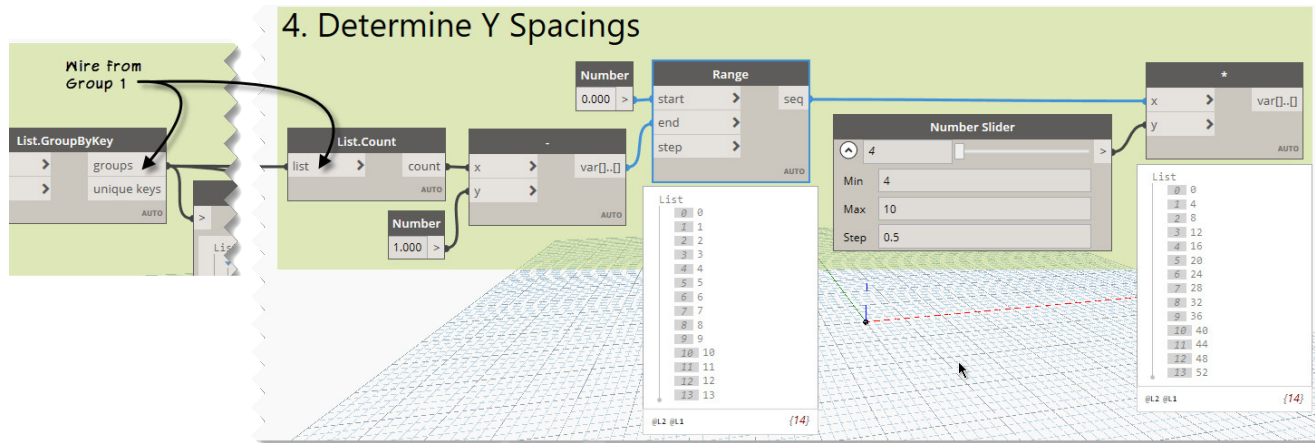

Figure 56
38. Run the graph (see Figure 56).